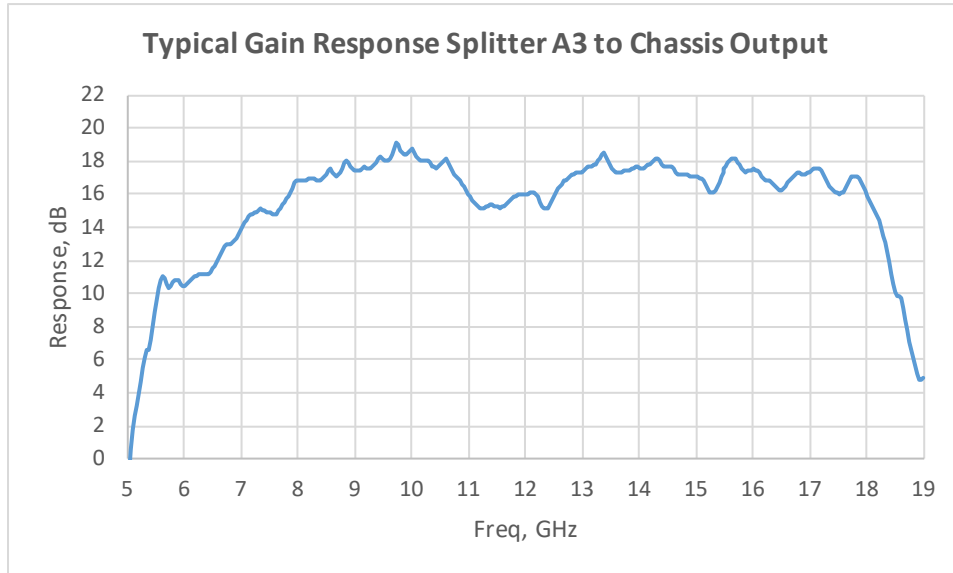

Figure 4-9. Typical Response: Input A3 – Splitter to RF Output Gain
- Remove the coaxial cable Shaper A1A3 and the A1A2 Driver Amp. The typical response from the input of the A1A2 Driver Amp to the RF output connector on the unit's front panel is shown in Figure 4-9. If response is abnormal, perform the following tests.